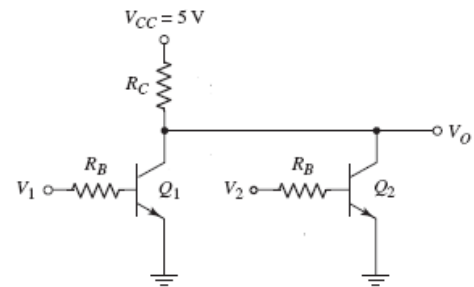

Figure 2
**2) NOR logic gate circuit:** The circuit for the NOR logic gate is shown in Figure 2. When the two inputs  $V_1 = V_2 = 0$  (Logic 0), both transistors ( $Q_1$  and  $Q_2$ ) are in cutoff, and  $V_O = 5$  V (Logic 1). When  $V_1 = 5$  V (Logic 1) and  $V_2 = 0$  (Logic 0), transistor  $Q_1$  can be driven into saturation, and  $Q_2$  remains in cutoff, such that the output voltage is  $V_O = V_{CE(sat)} = 0.2$  V (Logic 0). If the input voltages  $V_1 = 0$  (Logic 0) and  $V_2 = 5$  V (Logic 1), then  $Q_1$  is in cutoff,  $Q_2$  can be driven into saturation, and  $V_O = V_{CE(sat)} = 0.2$  V (Logic 0). If both inputs are  $V_1 = V_2 = 5$  V (Logic 1), then both transistors can be driven into saturation, and  $V_O = V_{CE(sat)} = 0.2$  V (Logic 0).